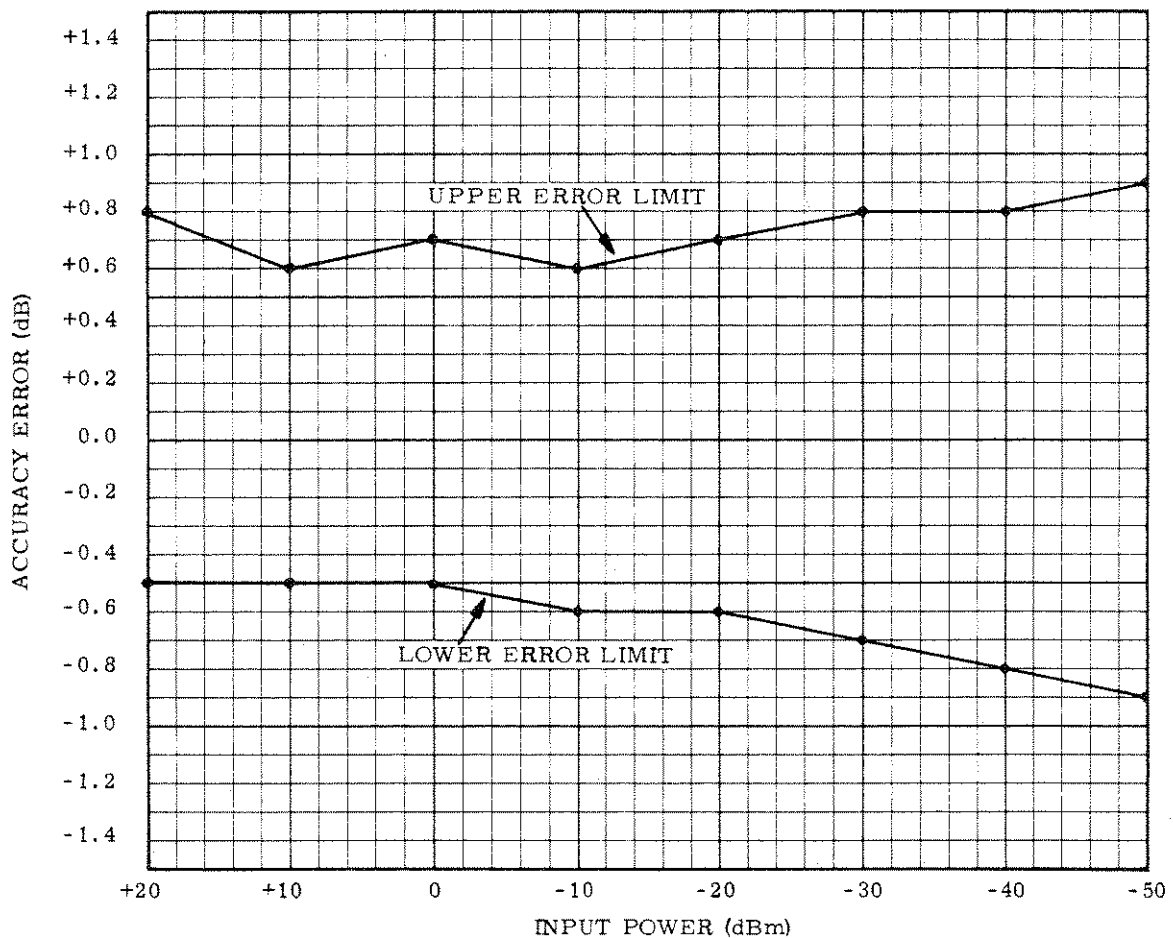
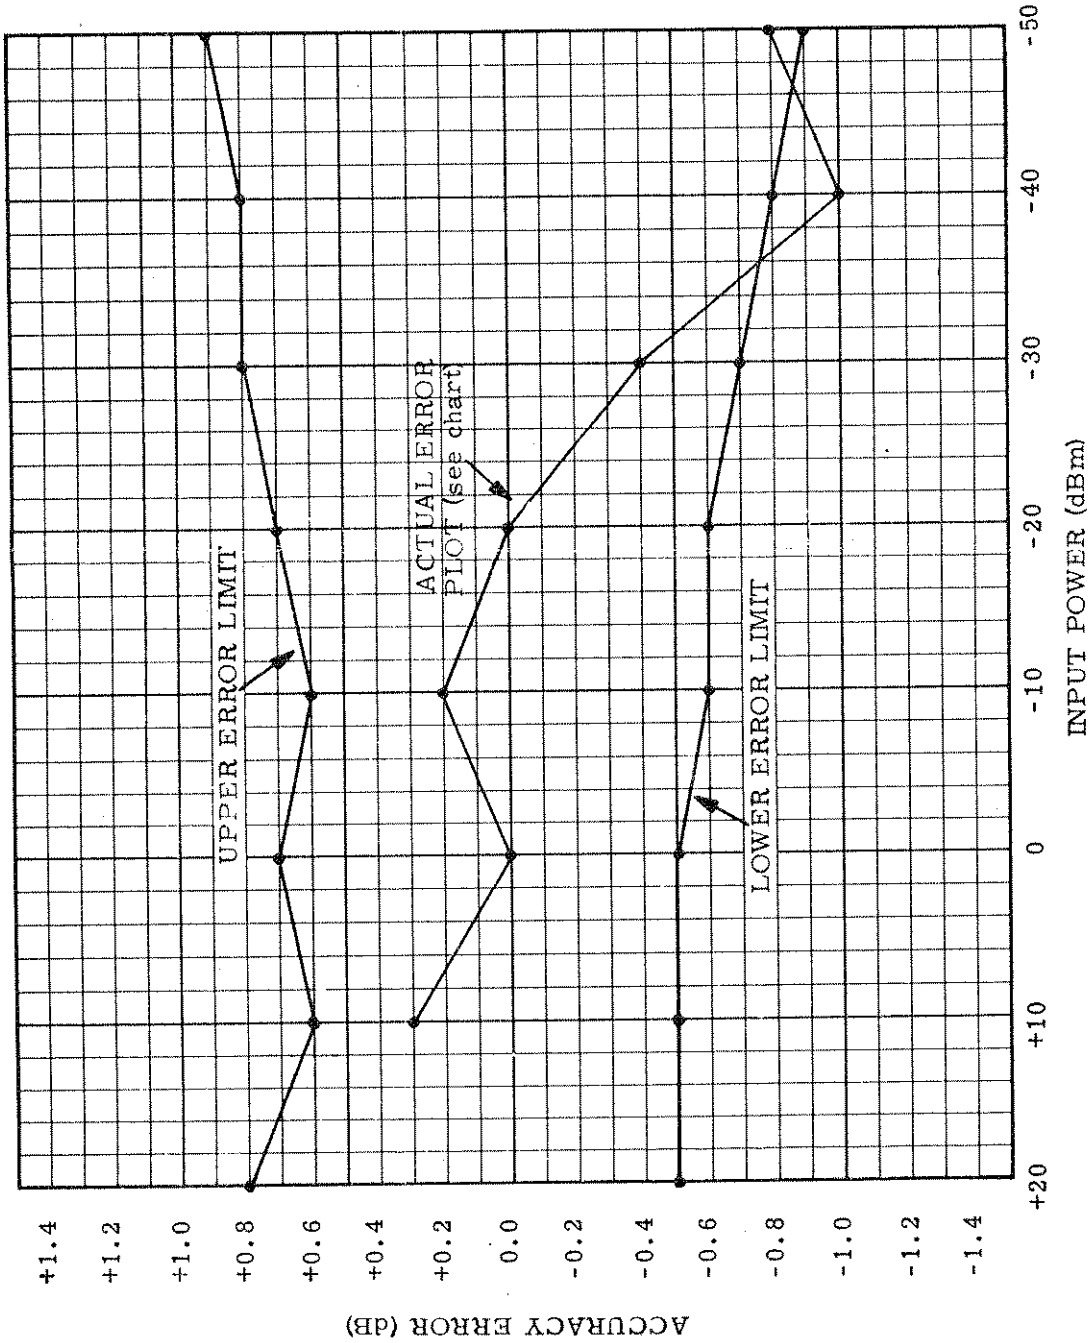

Figure 5-7. A&B Log Amplifier Response Graph
Figure 5-8. Example Describing How To Make R181 OFFSET ADJUSTMENT
2. Construct a graph similar to that shown in Figure 5-7. When the accuracy error reading at each Attenuator Dial Setting (Table 5-1) and at +16 dBm is plotted onto the graph, the graph will show the overall shape of the log amplifier response curve. The two accuracy potentiometers, R181 and R154, do not adjust individual response points; they adjust the overall shape of the response curve. Potentiometer R181 (offset) moves the curve up or down and potentiometer R154 (gain) alters the response curve's slope.
- (a) If by moving the plot up or down all of the response points can be brought within the upper and lower error limits (Figure 5-7), adjust R181. Figure 5-8 describes the R181 adjustment.
m. If Channel R power accuracy readings are clearly out of tolerance (refer to paragraph 4-4), perform Channel R log accuracy adjustments in the same manner described for Channel A&B (refer to subparagraph j, above, and Figures 5-8 and 5-9). For the Channel R response curve, slope is adjusted using R230 and offset (up/down) is adjusted using R294.